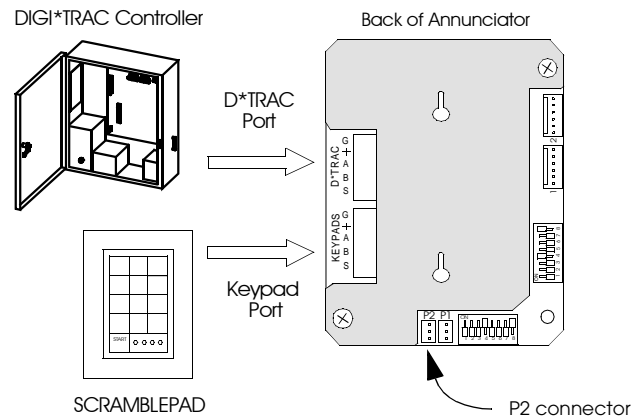

Figure 5: Connect Controller and Keypad to the Annunciator
- a. Route the wire from the Controller to the D*TRAC port on the DTA's MATCH board as shown in Figure 5. Connect the wire to the port.
6. *If you are using a keypad, route the data wire from the ScramblePad or ScrambleProx keypad to the Keypad port on the DTA's MATCH2 board as shown in Figure 5.*